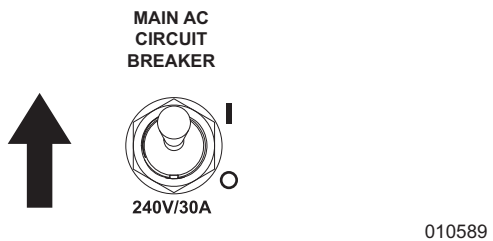

Figure 3-14. Main AC Circuit Breaker ON (I)
2. See Figure 3-14. Switch main circuit breaker to ON (I).